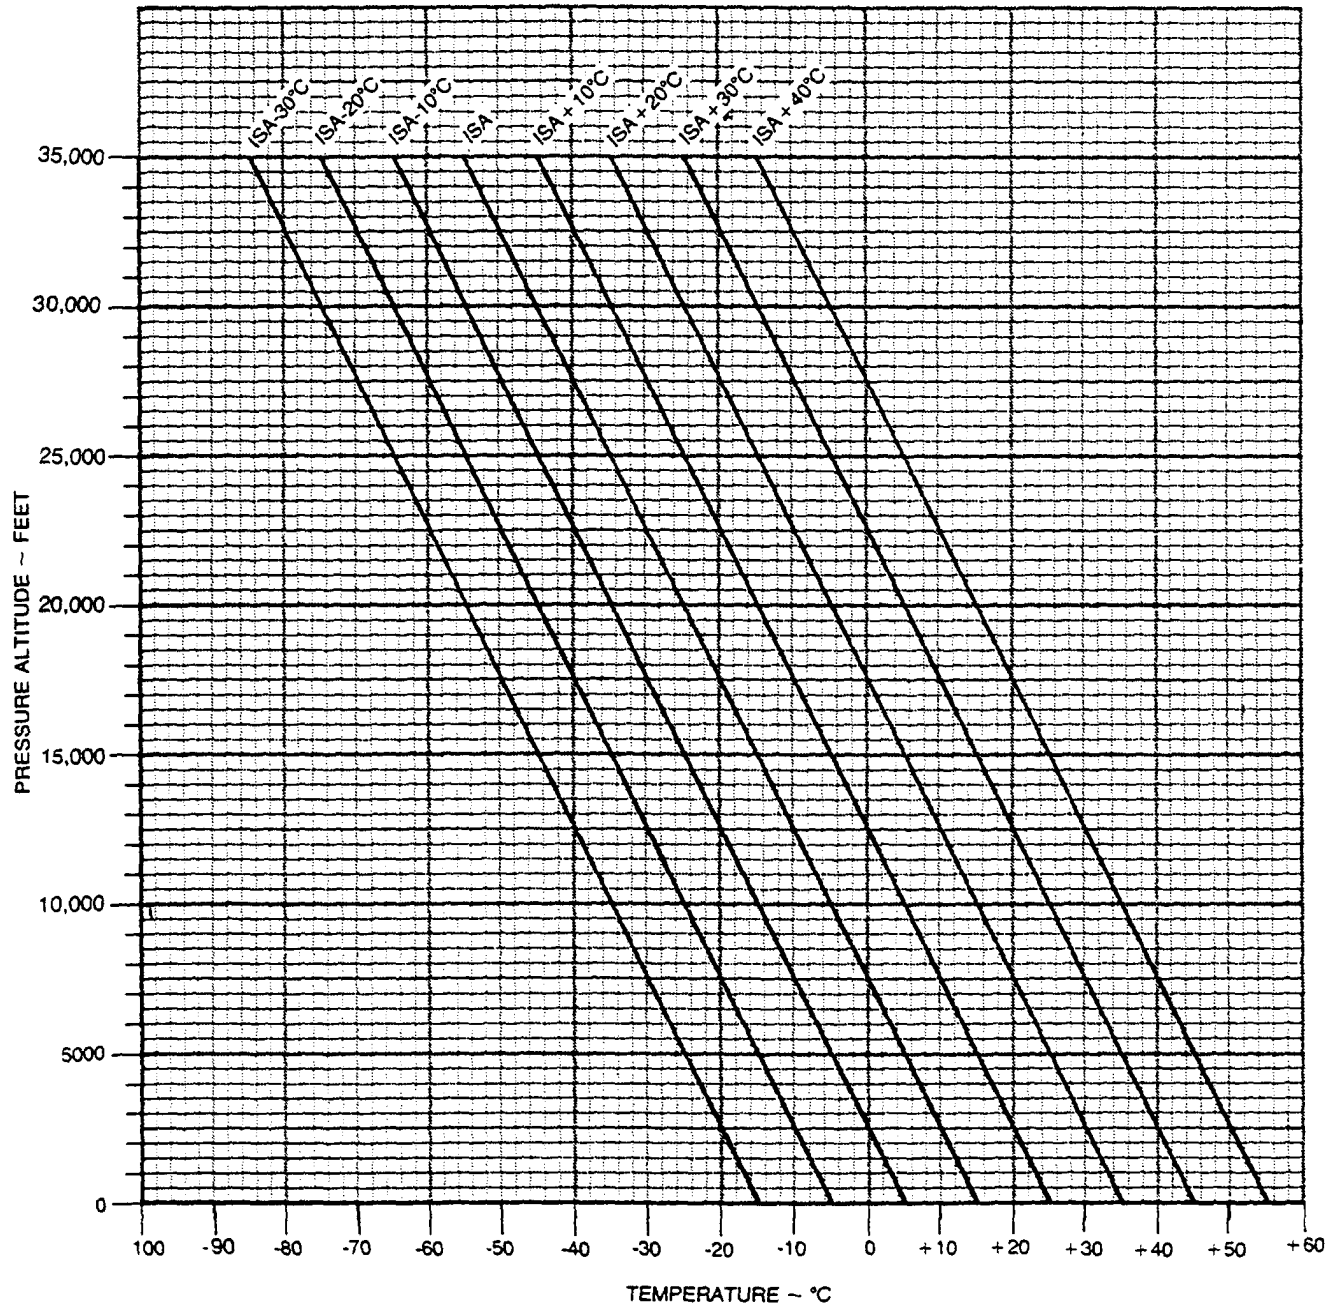

Figure 7-11. ISA Conversion
Recommended Cruise Power, 1700 RPM charts beginning at Figure 7-34 are normally used for cruise performance planning. Use Figure 7-11, ISA Conversion, to determine the correct chart, relative to ISA, for cruise performance planning. For this example, the mission is planned to be flown at FL240.
(1) If a weather forecast provides the forecast temperature at the cruise altitude, enter Figure 7-11 at that temperature. Trace up until intersecting the planned PRESSURE ALTITUDE ~ FEET. At that point, determine the closest ISA +/- guideline and use the corresponding chart for planning.
On Figure 7-11, ISA +23° is closest to the ISA + 20 reference line; therefore, use Figure 7-39, Normal Cruise Power, 1700 RPM, - ISA +20 °C for cruise performance planning.